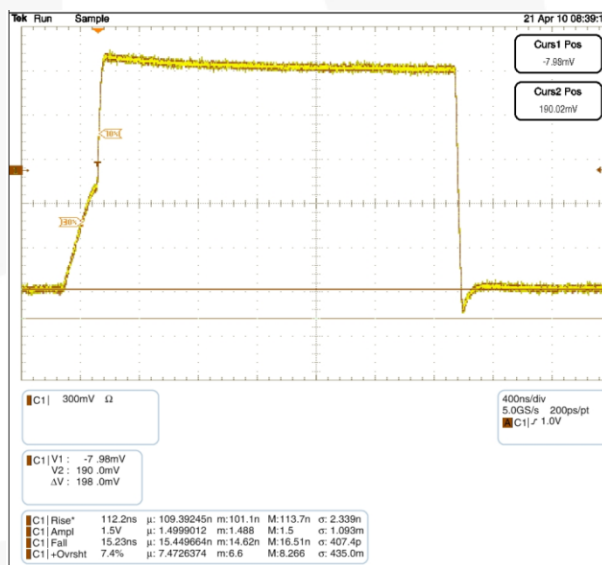

Figure 4. Waveform C: 600pF, Total R_{PU}: 2.2K Ω
$C =$ the bus capacitance. If the FXMAR2104 is attached to the master [on the A port] and there is a slave on the B port, the Npassgates act as a low resistive short between the ports until either of the port's $V_{CC}/2$ thresholds are reached. After the RC time constant has reached the $V_{CC}/2$ threshold of either port, the port's edge detector triggers both dynamic drivers to drive their respective ports in the LOW-to-HIGH (LH) direction, accelerating the rising edge. The resulting rise time resembles the scope shot in Figure 4. Effectively, two distinct slew rates appear in rise time. The first slew rate (slower) is the RC time constant of the bus. The second slew rate (much faster) is the dynamic driver accelerating the edge.